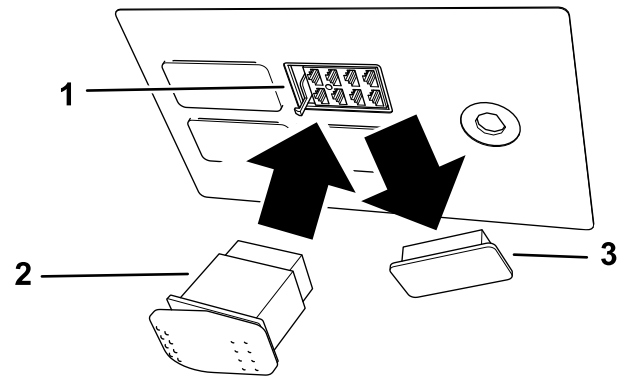

**Figure 6**
3. Plug the connector on the light-kit harness into the connector on the switch-panel harness (Figure 6).
4. Route the harness as shown in (Figure 6), and secure with the cable ties.